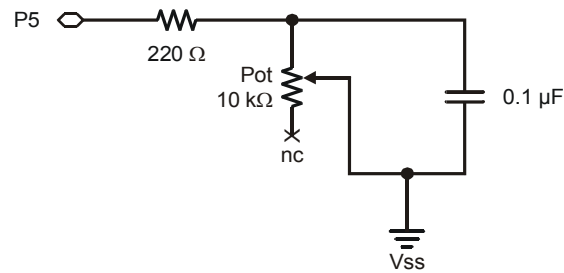
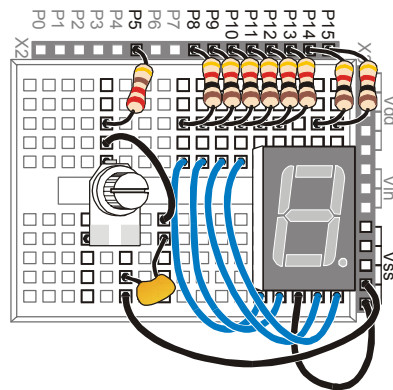

Figure 6-14
Figure 6-15
Figure 6-14 shows a schematic of the potentiometer circuit that should be added to the project. Figure 6-15 shows a wiring diagram of the circuit from Figure 6-14 combined with the circuit from Figure 6-10 on Page 168.
- ✓ Add the potentiometer circuit to the 7-segment LED display circuit as shown in Figure 6-15.